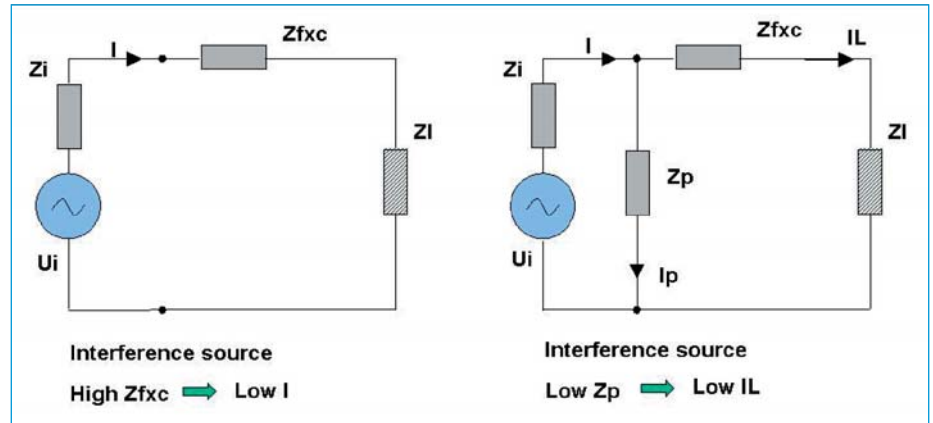

Figure 2. Basic suppression circuits
Capacitors are used as shunt impedance (ZP) for the unwanted signal. Unfortunately for high frequencies, most capacitors do not have the low impedance one might expect because of parasitic inductance or resistance (Fig. 2).